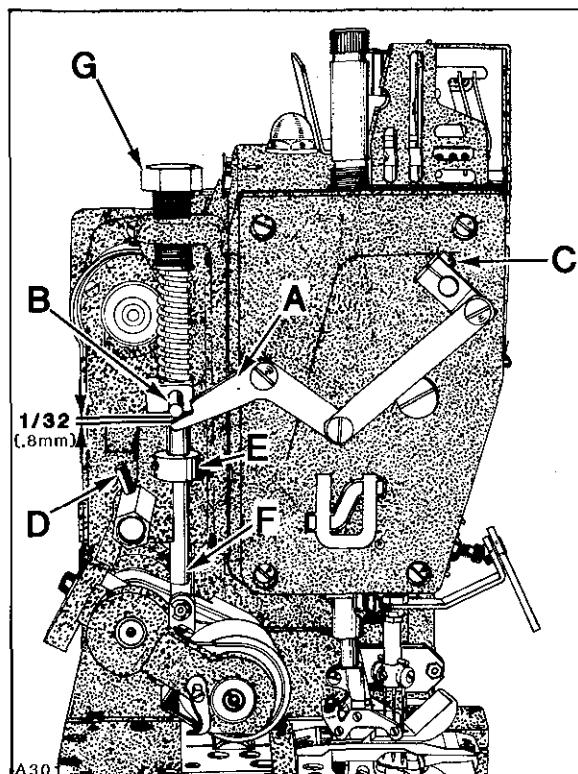

Fig.35
With puller in the operating position and presser foot resting on throat plate there should be  $1/32$  inch (.8mm) between puller lifter link (A, Fig. 35) and puller lifting pin (B). If adjustment is required loosen screw (C) in upper presser foot lifting shaft connection and raise or lower link (A) as required. Tighten connection screw (C) securely..